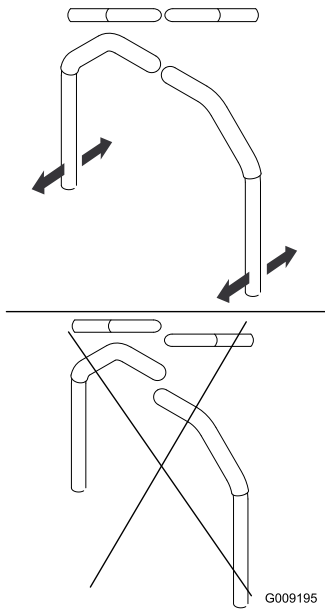

Figure 83
4. Align the levers front to rear position by bring the levers together to the NEUTRAL position, slide them until they are aligned, and tighten the bolts (Figure 83).